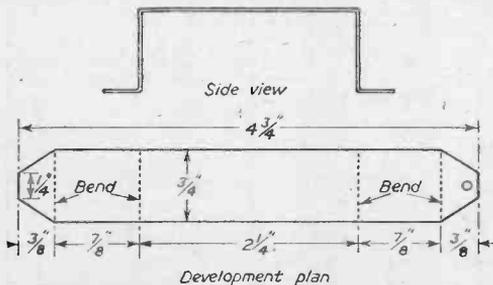

Fig. 4.—Condenser mounting bracket.
It will be noted that the bandspread condenser (CB) is mounted on a metal stand-off bracket (see list of parts). In order to place the main dial in a satisfactory position this bracket must be mounted on an aluminium raised support. Details of this arc given in Fig. 4, although there is no reason why these measurements should not be varied by the constructor to suit individual requirements, and mains transformer used if differing from that shown.